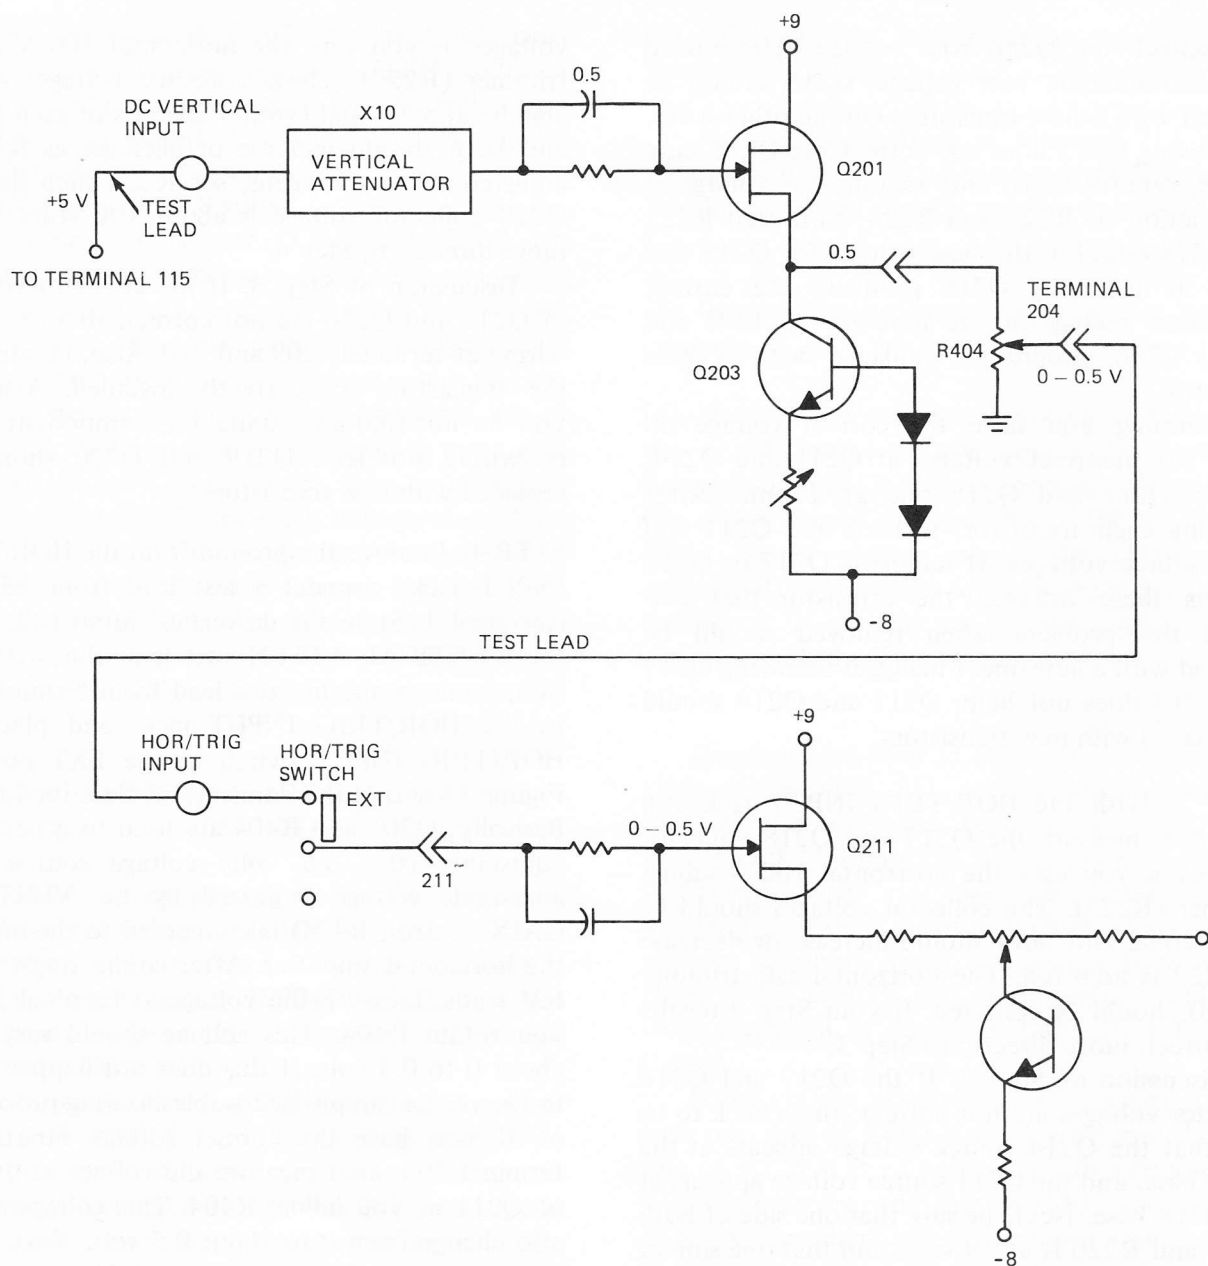

Figure 16. Connections for Step 4 of the horizontal troubleshooting procedure.
STEP 4: Remove the ground from the HOR/TRIG INPUT jack, connect a test lead from +5 volts (terminal 115) to the dc vertical input jack, place the VERTICAL ATTEN switch in the $\times 10$ position, connect another test lead from terminal 204 to the HOR/TRIG INPUT jack, and place the HOR/TRIG INPUT switch in the EXT position. Figure 16 shows the connections described above. Basically, Q201 and R404 are used to generate an adjustable (0 - 0.5 volt) voltage source. This adjustable voltage (adjusted by the VERTICAL GAIN control, R404) is connected to the input of the horizontal amplifier. After connecting the two test leads, measure the voltage at terminal 204 as you rotate R404. This voltage should vary from about 0 to 0.5 volt. If this does not happen, refer to the vertical amplifier troubleshooting procedure.
Discussion of Step 4: If the gate voltage of Q211 does not vary as R404 is adjusted, first check the resistance between terminals 204 and 211. You should read 0 ohms. If not, use Fig.16 or the overall schematic in Fig.17 to trace the circuit. If